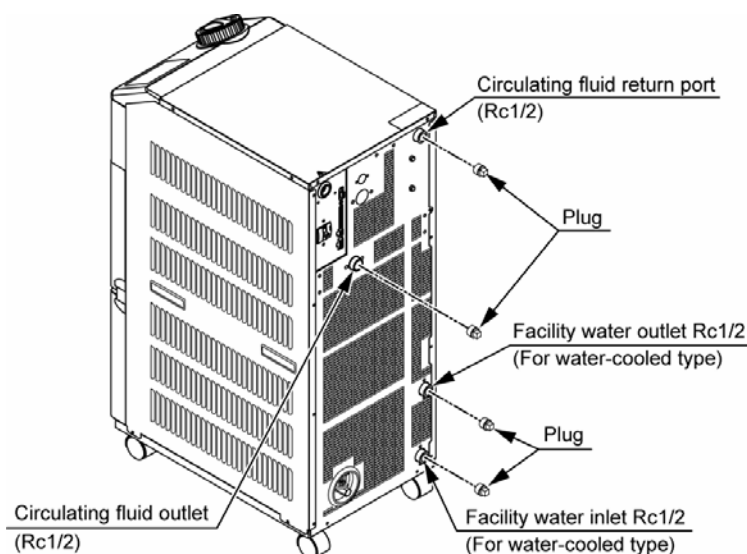

Fig. 7-5 Plug to the piping of the product
9. Refer to Fig. 7-5 Plug to the piping of the product to mount the plug to the piping of the product.